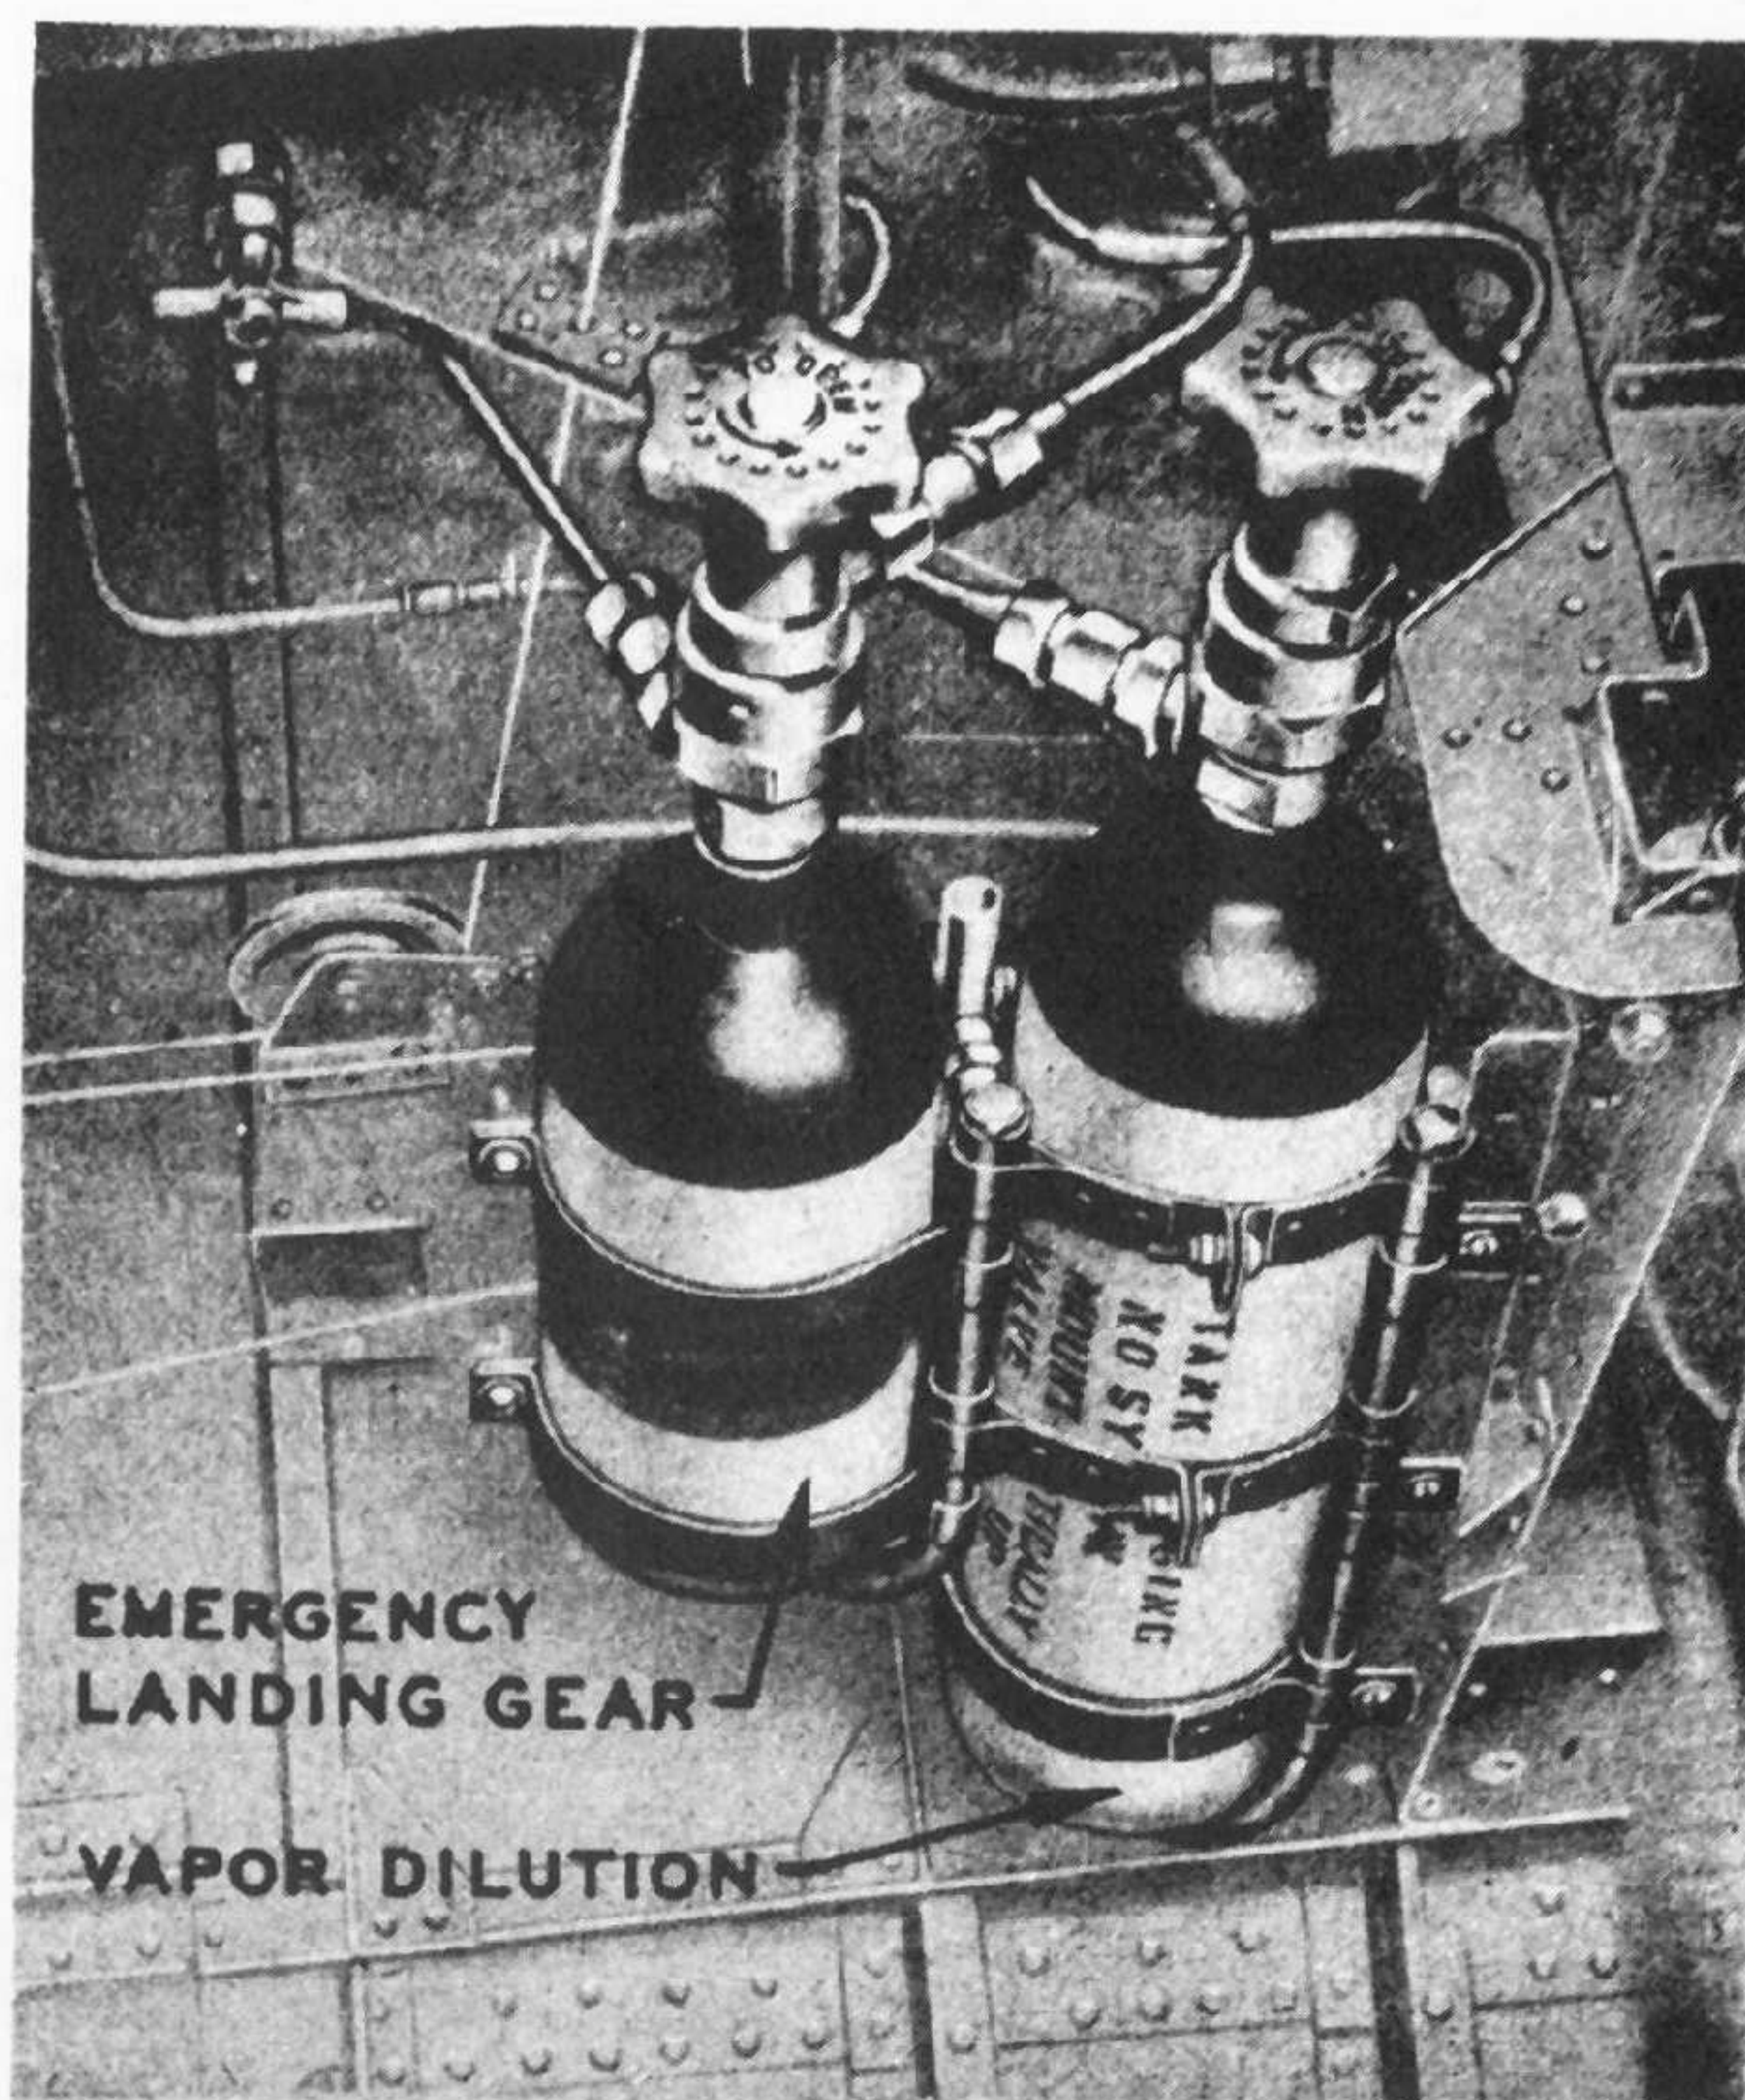

Fig. 30 — CO₂ Bottles — Emergency Landing Gear and Vapor Dilution
(2) Move landing gear control to "DOWN."
(3) Turn emergency landing gear release valve, located on left side of cockpit. Early Model F4U-1 airplanes are equipped with a pull handle for operating the valve. On all airplanes equipped with a vapor dilution system, with the exception of airplanes provided with a pull handle release, a safety pin is installed on the landing gear emergency CO₂ release valve to prevent inadvertent lowering of the landing gear when wing tank purging is desired.
(4) Further reduce speed to about 90 knots (about five knots above stall) while the landing gear is extending.
(5) Check indicators that landing gear and tail wheel are fully locked "DOWN."
c. The emergency extension of the landing gear is started at a comparatively high speed so that the air-flow will assist in opening the landing gear doors. Turning the emergency landing gear release valve admits CO₂ to a sequence valve which actuates two unloader valves, the unloader valves by-passing the pressure at the bottom of the landing gear and tail wheel struts directly back to the hydraulic reservoir. The sequence valve in turns admits CO₂ pressure to the top of the landing gear struts, thereby extending the gear. The early models incorporating a pull handle emergency release work on much the same principle. In this case, pulling the release first actuates the unloader valves and then operates a cutter valve which releases the CO₂ pressure to the landing gear struts (see figures 30 and 32). For hydraulic operation refer to Section I, paragraph 7. b. (3).